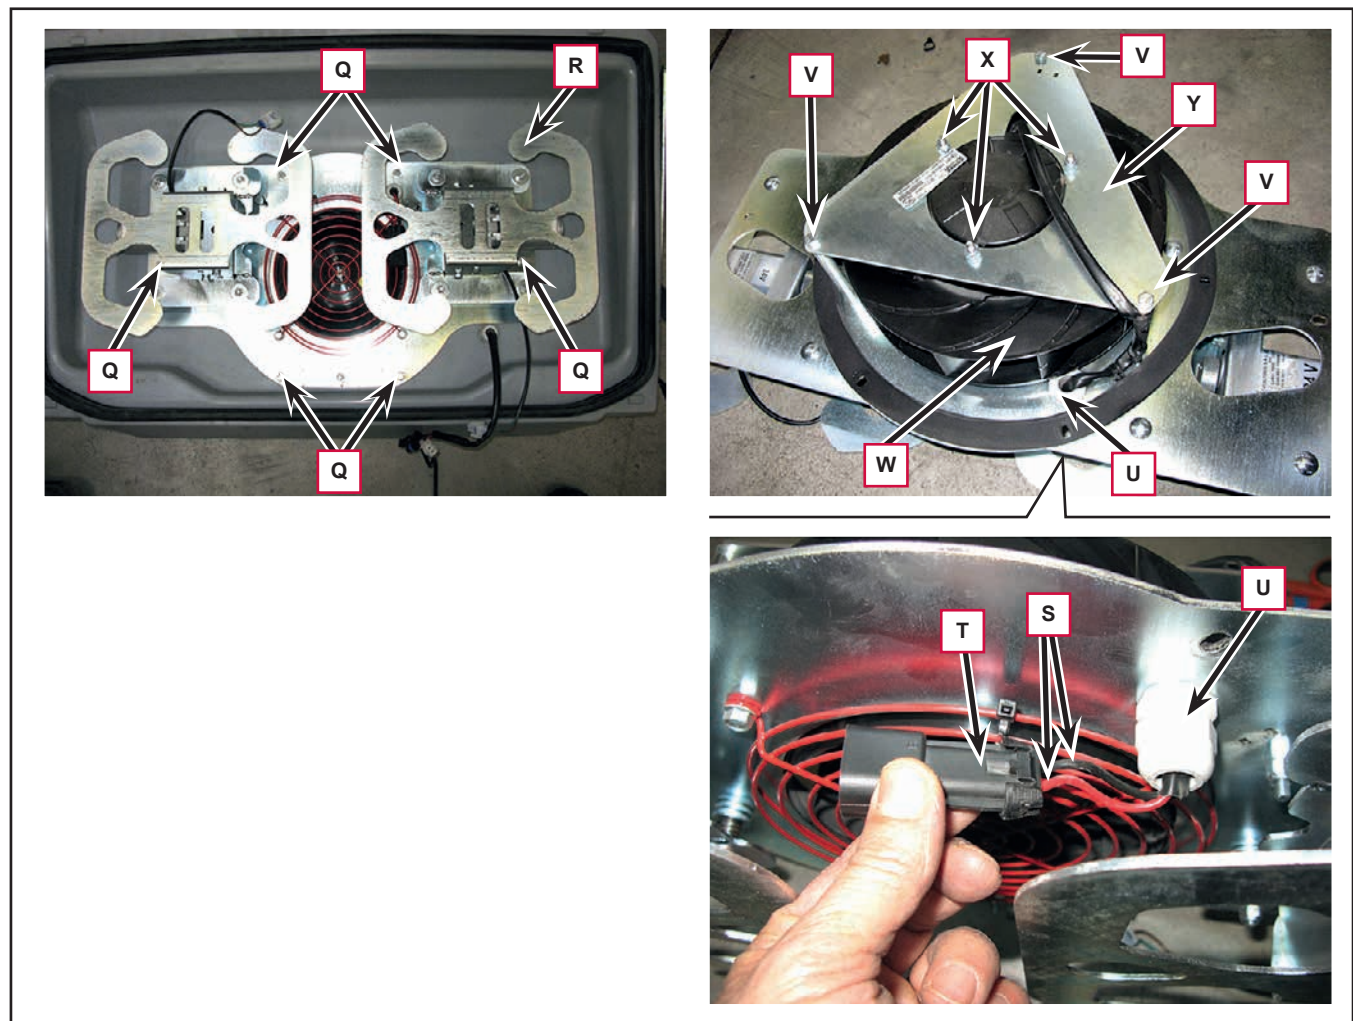

Figure 11
12. Unscrew the screws (Q, Figure 11) and remove the assembly (R).
13. Disconnect the terminals of the electrical cables (S) from the connector (T), then extract the electrical cables from the cable grommet (U).
14. Unscrew the screws (V), then remove the electric fan assembly (W).
15. If necessary, unscrew the nuts (X) and remove the flange (Y) from the electric fan (W).